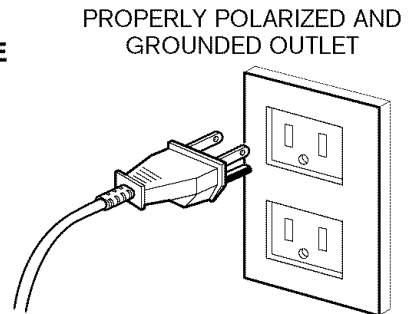

Figure 3
- Place the plug into a properly installed and grounded outlet. See Figure 3.